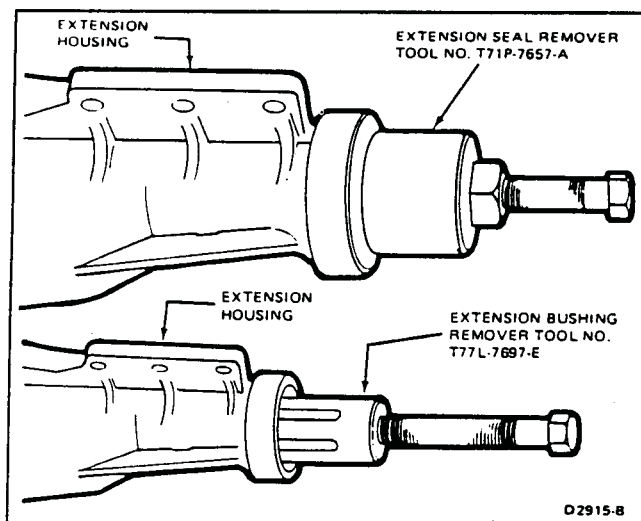

FIG. 11 Extension Housing Seal and Bushing Removal
3. Remove the oil seal using Extension Housing Seal Remover T71P-7657-A or equivalent, (Fig. 11).
4. Remove the extension housing bushing using Extension Housing Bushing Remover T77L-7697-E or equivalent (Fig. 11).